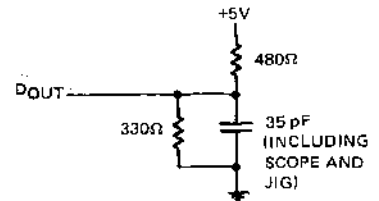

Figure 2
- Notes: ① \overline{WE} is high for read cycle.
② Transition is measured $\pm 500\text{ mV}$ from steady state with load of Figure 2. This parameter is sampled and not 100% tested.